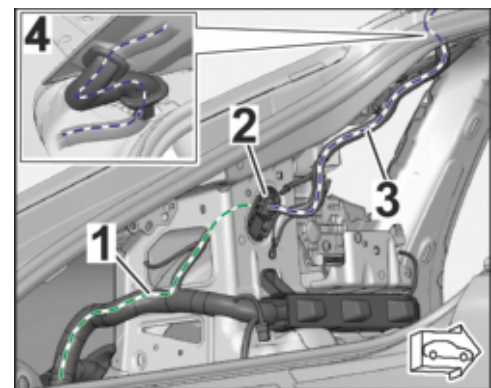
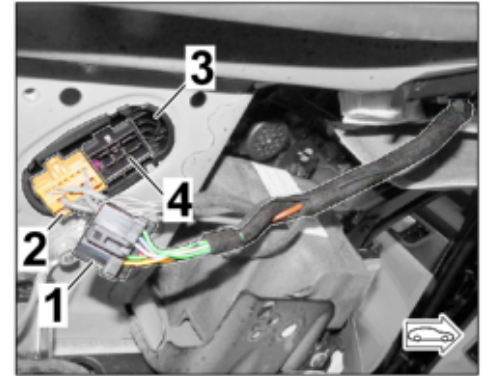
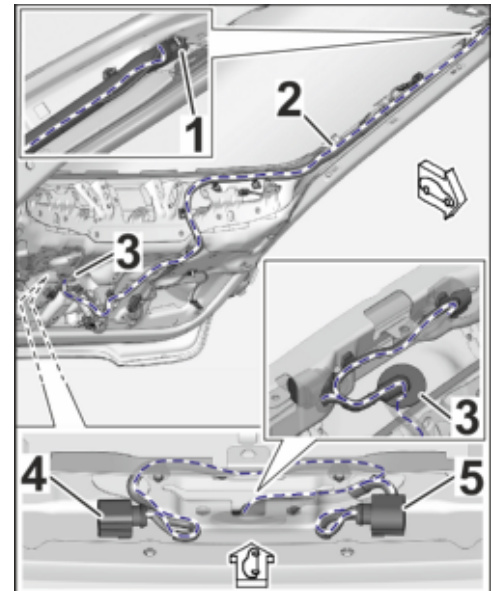
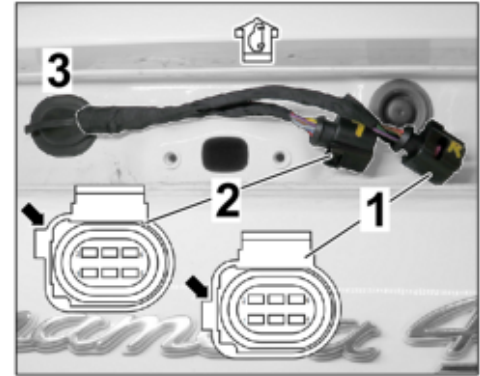

Figure 12 (similar)
Figure 13
Figure 14 (similar)
Figure 15 (similar)
2.2.3 Rear lid connection point area, left C-pillar (see also wiring diagram 45A – left rear cap) ⇒ *Figure 12 (similar)*
Disconnect plug connections, 17-pin (black and brown) and remove plug connections holder from the C-pillar if necessary. ⇒ *Figure 13*
Overview of routing of wire harness for module HKL\_le: ⇒ *Figure 12 (similar)* and ⇒ *Figure 14 (similar)*
2.3.1 Tail light in rear lid area (see also wiring diagram 45A – rear lid, left) ⇒ Figure 15 (similar)
- Lock connectors (6-pin) on the left and right side. ⇒ Figure 15 (similar)
2.3.2 Tail light grommet area in rear lid ⇒ *Figure 14 (similar) -3-* and ⇒ *Figure 15 (similar) -3-*
2.3.5 Rear lid connection point area, left C-pillar (see also wiring diagram 45A – left rear cap) ⇒ Figure 12 (similar) and ⇒ Figure 13